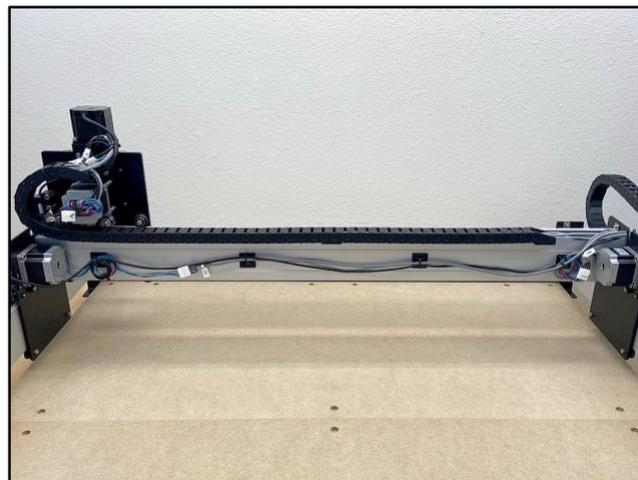

Figure 35
1. Tidy up the cables along the rear of the X-rail. See *Fig. 35*.